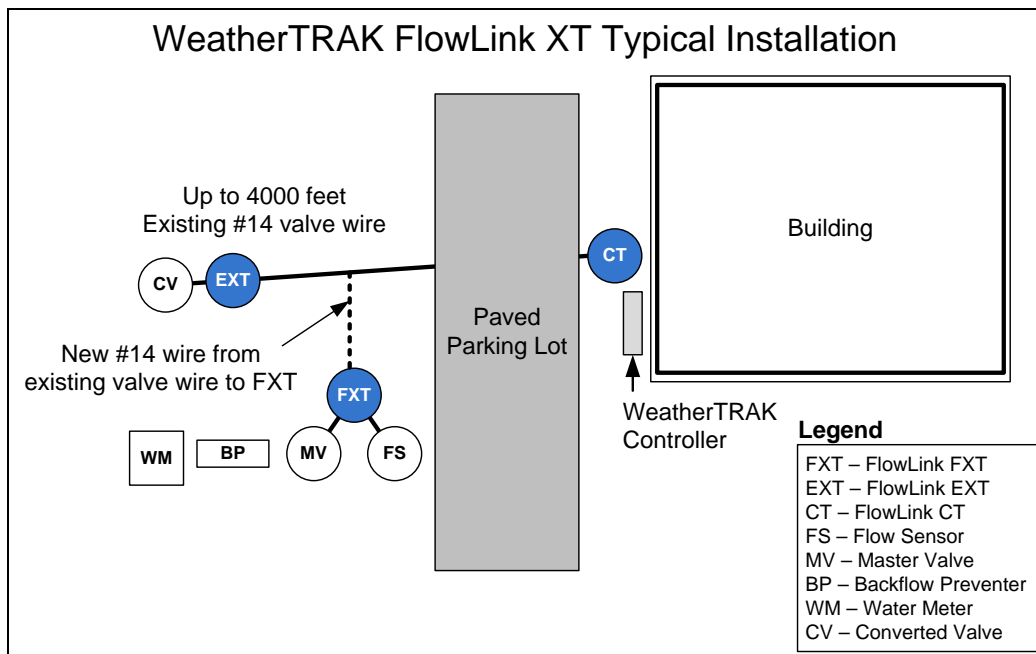

Figure 1
The Controller Transceiver (CT) and Field Transceivers (FXT and EXT) are installed as a unit. Figure 1 below represents a typical installation where the CT is installed adjacent to a WeatherTRAK controller and a Field Transceiver (FXT) is installed adjacent to a flow sensor and master valve up to 4,000 feet away. The optional extension module, EXT, is installed near the converted control valve within 4,000 feet from the CT.